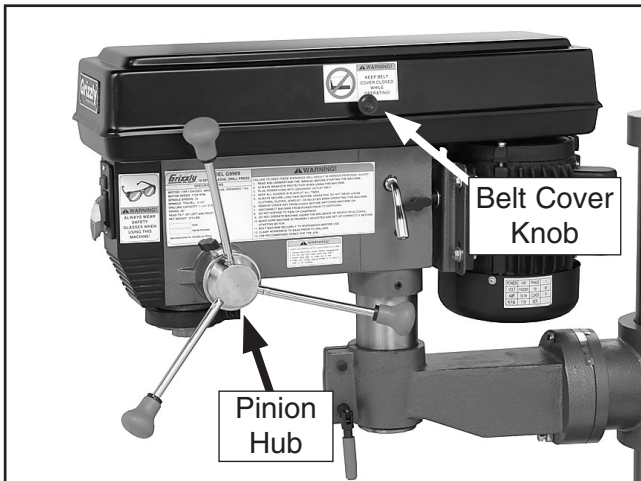

Figure 12. Downfeed handles installed.
1. Thread the downfeed handles into the pinion hub, as shown in **Figure 12**.